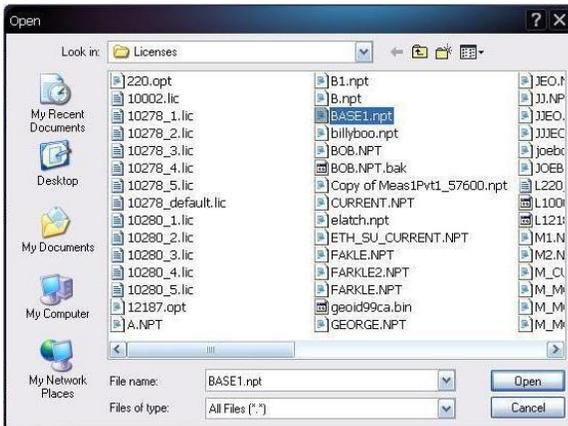

Figure 17: Network Base – Sample.npt Upload
5. Select *Load the profile listed in Profile File Name*; make sure the *Un-check to load defaults before loading profile* is checked (as in Figure 17).